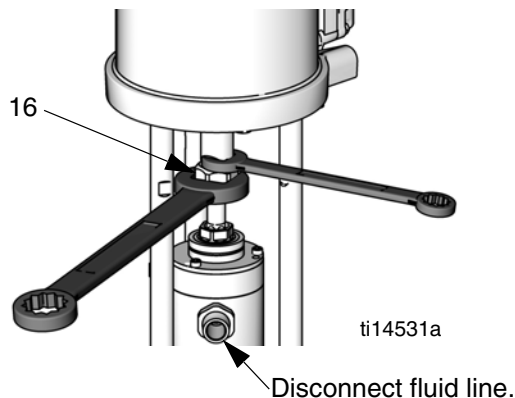

FIG. 26. Loosen the coupling nut
2. Disconnect the fluid line from the pump outlet. See FIG. 26.
3. **Merkur Pumps:** Remove the tie rod shield (26).